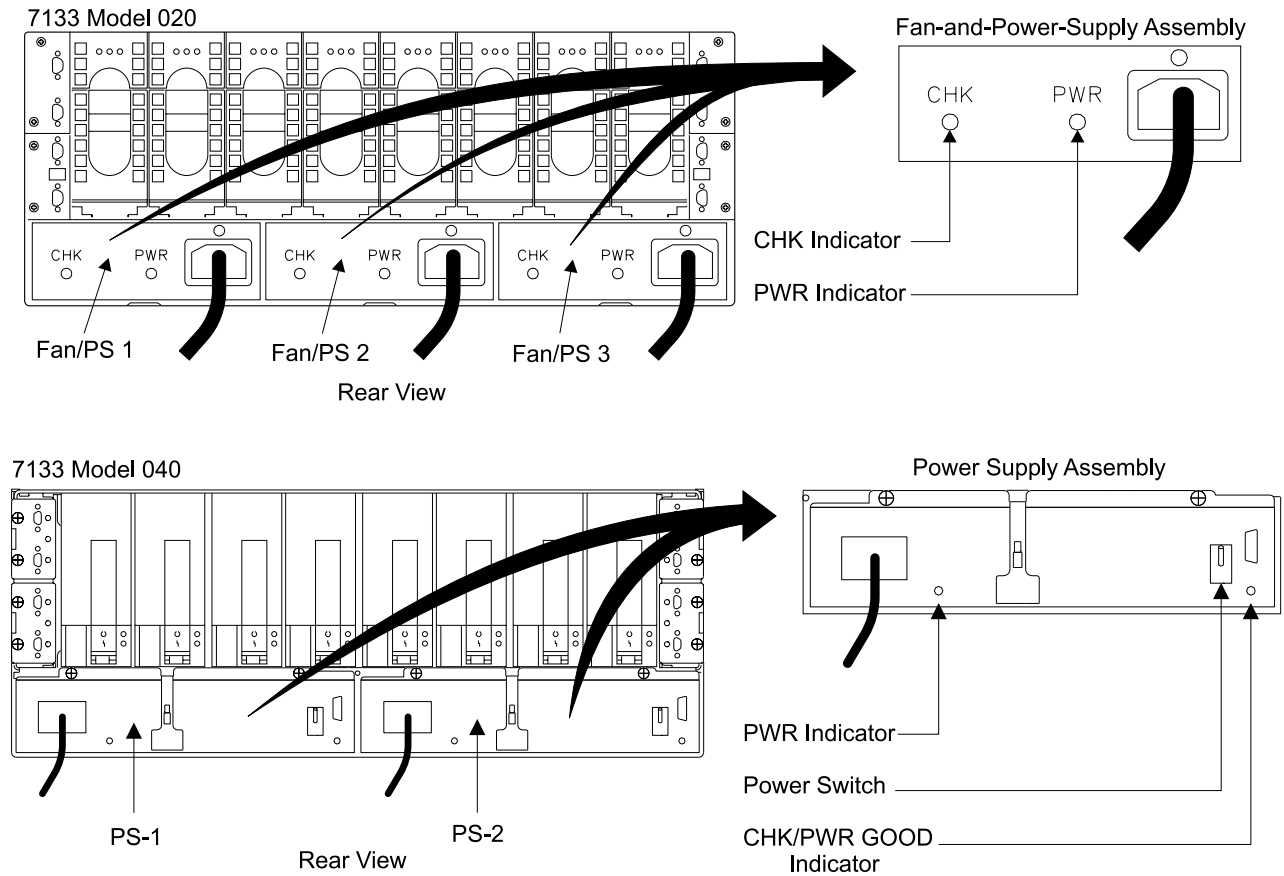

Figure 109. SSA DASD Model 020 and 040 Drawer PWR (Power) Indicator Locations (S008030p)
1. Observe PWR (power) indicators on the fan-and-power-supply assemblies in the failing drawer, see Model 020 drawer in Figure 109 on page 213.